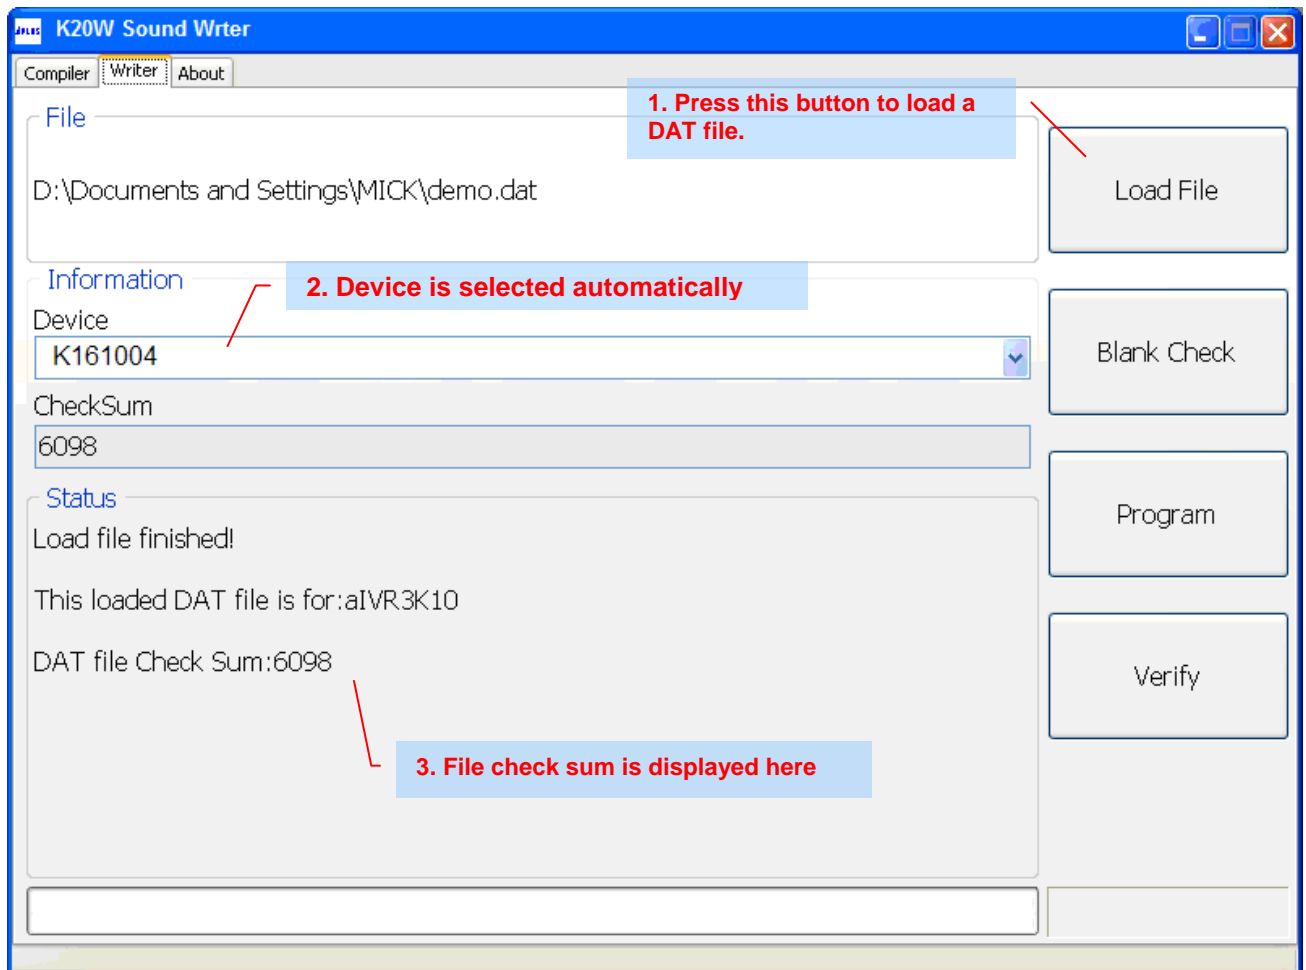

Fig. 8
- **Load File:** To load the DAT file from the computer (Fig. 8)